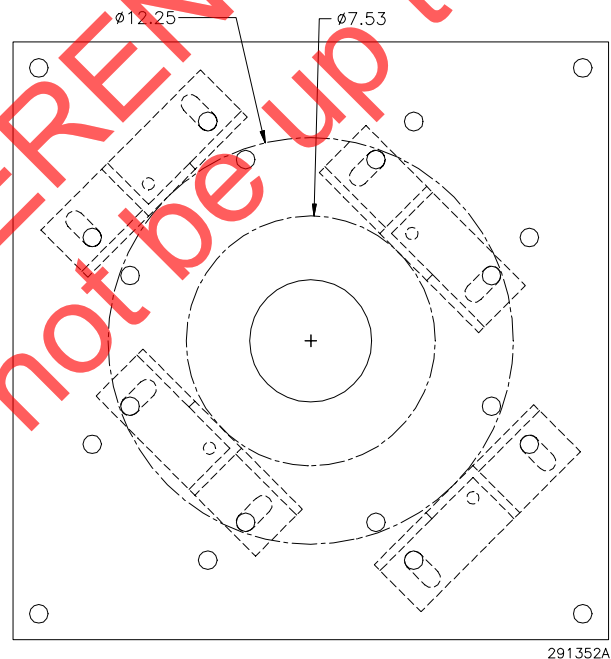

Figure 3-3. Leg Assembly Diameters.
5. Adjust the legs and insert shims, if necessary, between the siren legs and pole. The legs adjust to a diameter between 7.53" and 12.25" (See Figure 3-3). Bolt the siren to the pole using two 5/8" galvanized lag bolts with washers and split lockwashers per leg. At least four inches of lag bolt must be screwed into the pole. Tighten all bolts.